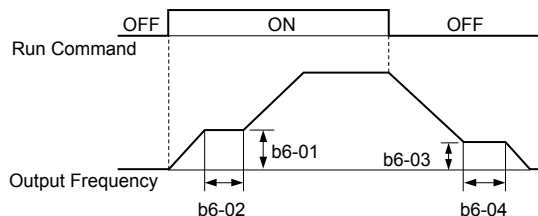

Figure 5.27 Dwell Function at Start and Stop
**Figure 5.27** illustrates how the Dwell function works.